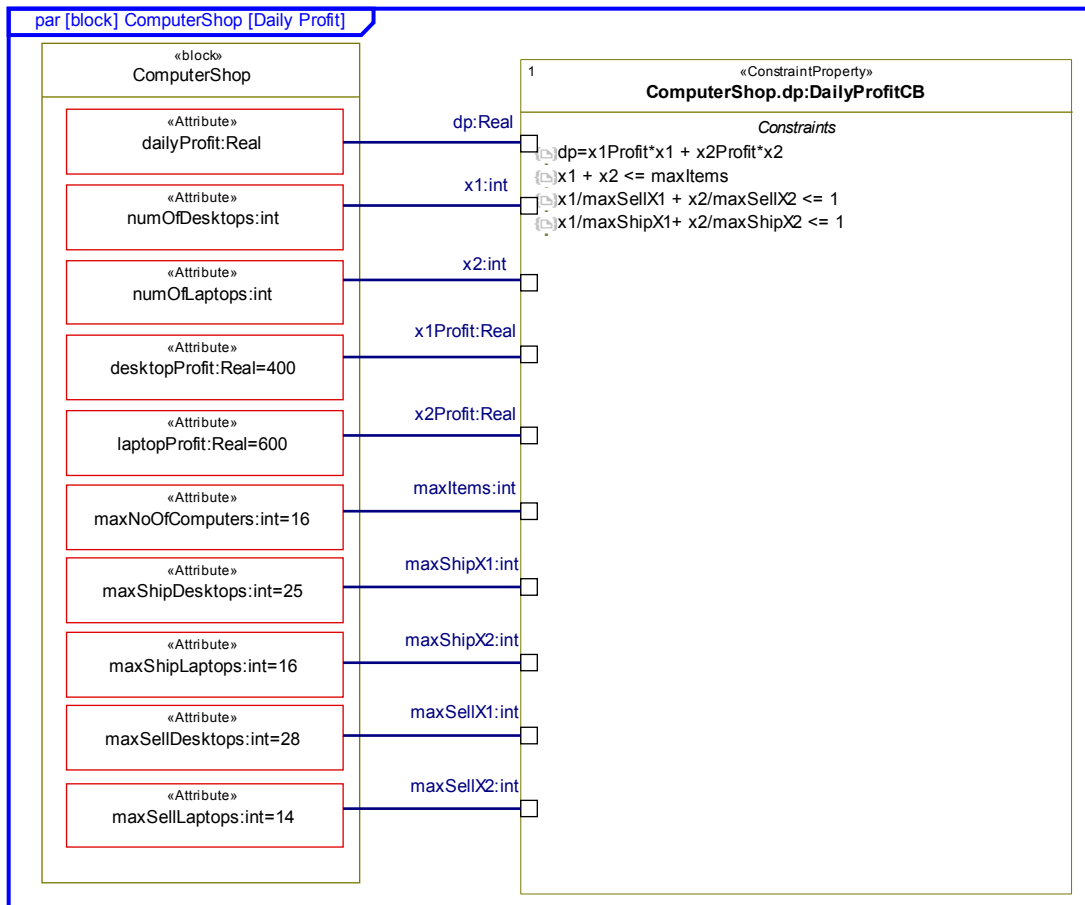

Figure 2: Parametric Diagram for Computer Shop Example
4. Specify the parametric diagram as shown in Figure 2. DailyProfitCB is a ConstraintBlock that specifies all the equations and constraints. In this case we have one equation for the total daily profit and three inequalities showing the manufacturing, selling and shipping constraints. The language used for the constraint expressions is a subset of the Modelica language. Formally, in SysML, in order to use a Constraint Block one needs to specify a Constraint Property (a usage of a Constraint Block) and connect the Constraint Parameters with binding connectors (the lines shown on the diagram) to the relevant design attributes.